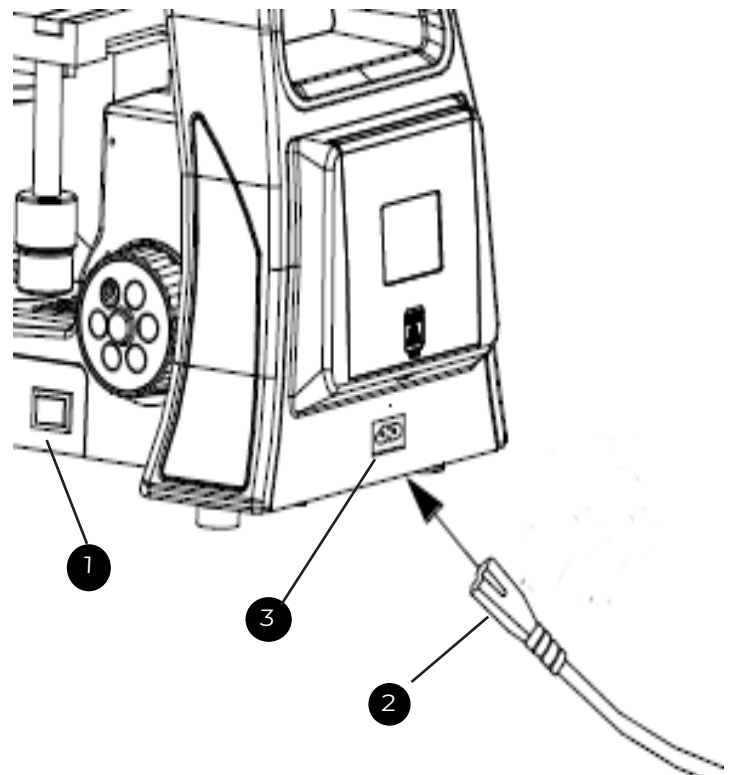

Fig. 4
2. Insert the connector **2** of power cord into the power socket , making certain it's inserted completely (see Fig.4).